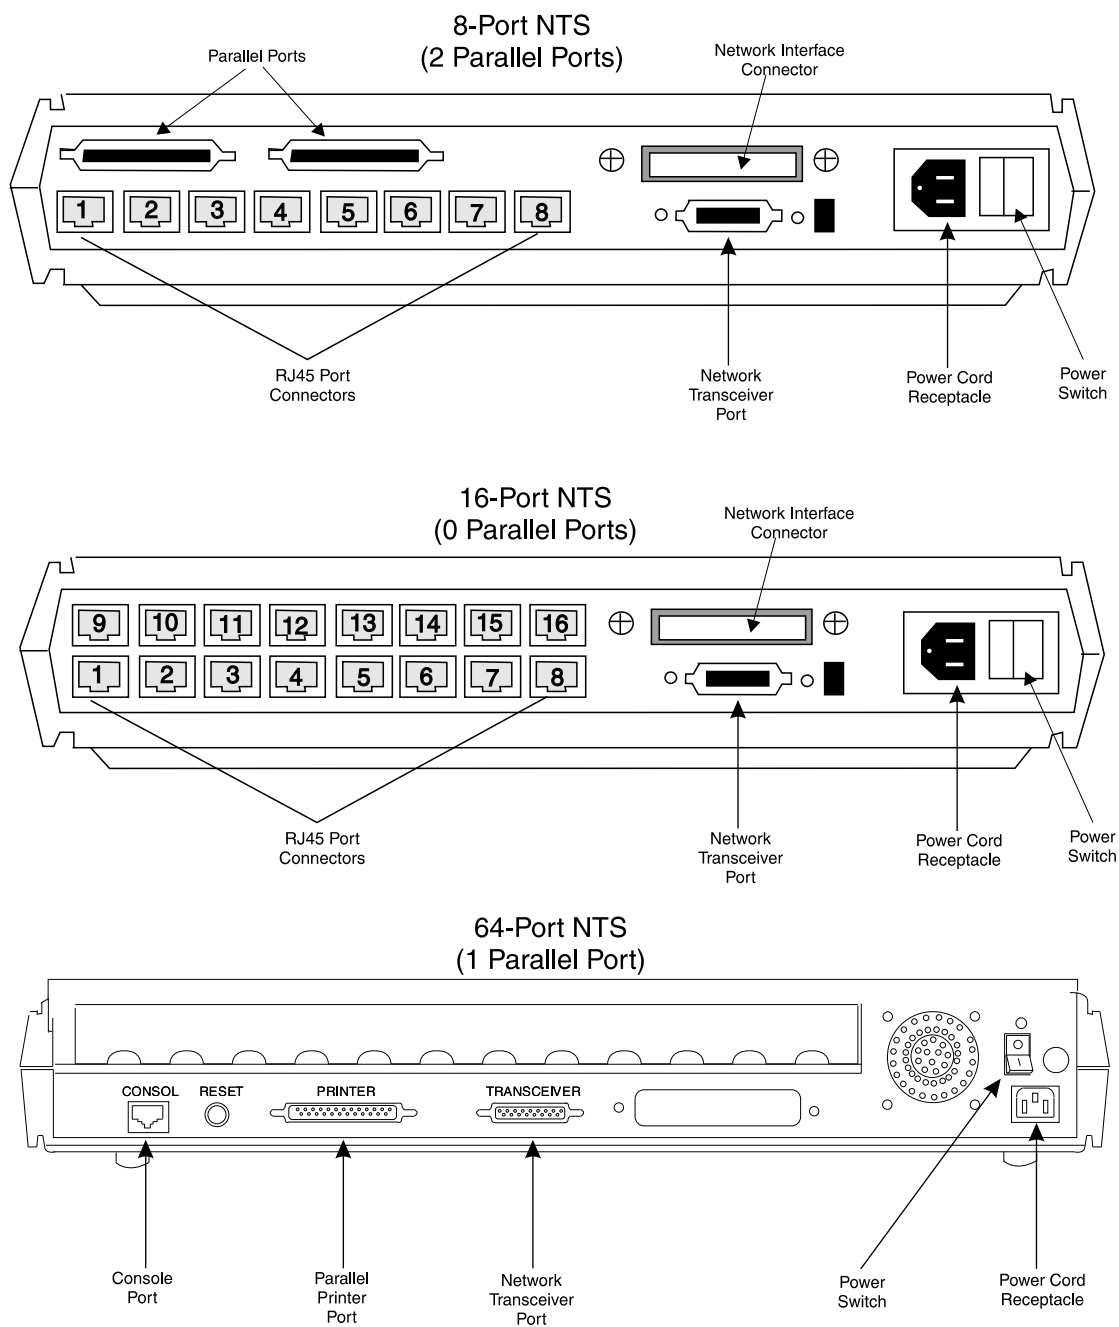

Figure 3-28: Network Terminal Servers - Back Panel
7. Connect a dumb terminal to the **CONSOLE** port on the rear of the NTS using the console cable that came with the NTS. On the 8- and 16-port NTSS, the **CONSOLE** port is port #1 (see Figure 3-28).